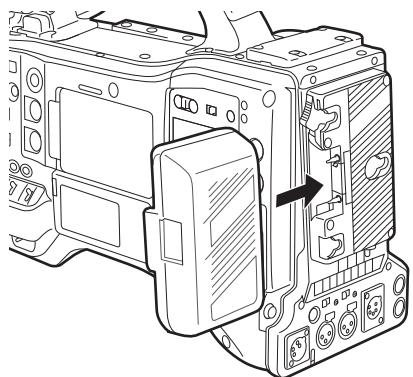

Fig. 1
**1 Insert a charged battery pack. (Fig. 1)**
**2 Set the power switch to < | > (ON), and make sure that five or more levels on the battery level display bar on the display window are lit.**